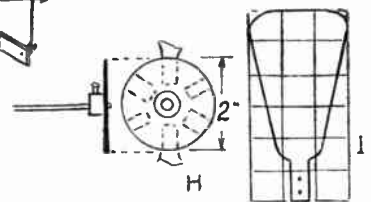

Fig. 4 Vane disc and shape
For the rotary windvanes, cut a disc of stout tin, or thin sheet brass, to size at (H), in Fig. 4. Centre this, drill a  $\frac{1}{2}$ in. hole, and over the hole solder another brass collar, with screw. It may be mentioned that the collars and rod can be Meccano parts, and so solve the difficulty of both fitting the discs on, and trouble in obtaining the materials. To this disc the 6 vanes will be fixed, at equal distances apart, as shown by the dotted outlines.